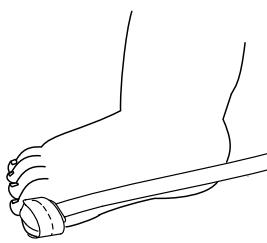

Fig. 3b
3. Refer to **Fig. 3b**. Wrap the adhesive sensor around the great toe and ensure that the emitter window aligns on the top of the great toe directly opposite of the detector. Check the sensor to verify correct positioning and reposition if necessary.